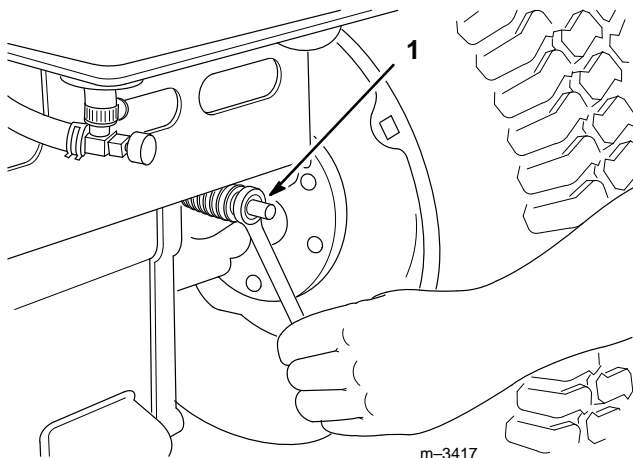

Figure 36
The brake adjustment is at the rear of the tractor (Fig. 36). If the parking brake does not hold securely, an adjustment is required.
- Turn the brake adjustment nut (Fig. 36) until there is 2" (51 mm) of free travel.